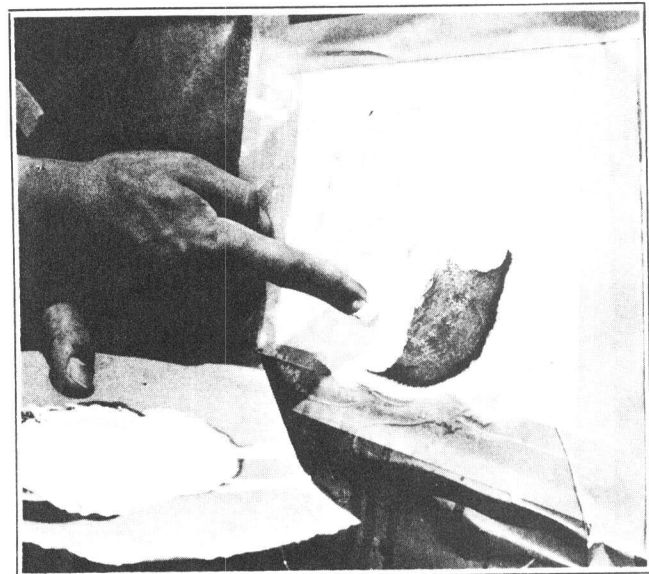

Figure 4-14. Working Gel Coat into Patch
- Mix gel coat with catalyst. Work Gel Coat into patch with fingers. See Figure 4-14.